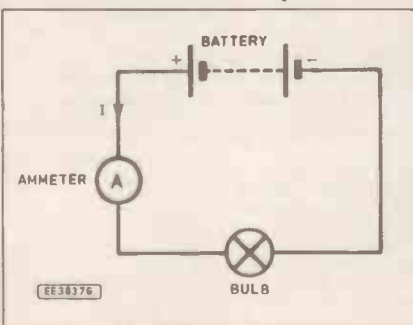

Fig. 1. Connecting an ammeter in circuit.
parallel circuits. To measure the current (I) flowing through, for example, a bulb we use an ammeter connected in series with the circuit (see Fig. 1). The meter will then give a reading in amps (A). In practice the meter will often be a milliammeter measuring in thousandths of an amp (mA) or a microammeter reading in millionths of an amp (μ A).